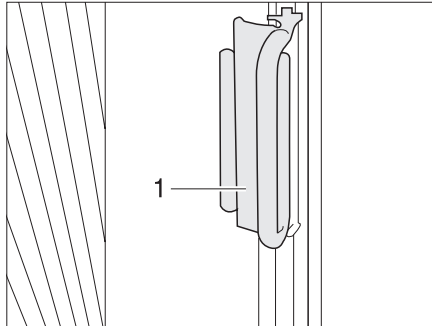

Fig. 41 Handle Roman shade for driver's and front passenger's windows
- Grasp the handle (Fig. 41,1) of the Roman shades and draw carefully forwards until the magnetic catch keeps the Roman shades closed.
- Push the handle (Fig. 41,1) onto the attachment. The Roman shade is secured.